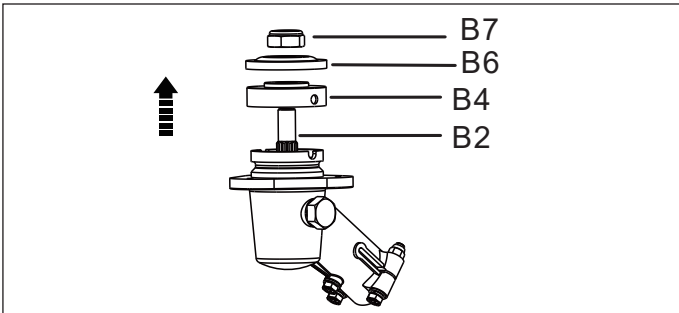

Fig. 4b
c). Insert the Hex key 4 mm (F3) into the hole to lock the spindle (B2).
d). Loosen the safety nut (B7) and take it off together with the locking flange (B6) and backing flange (B4). (See Fig.4b)